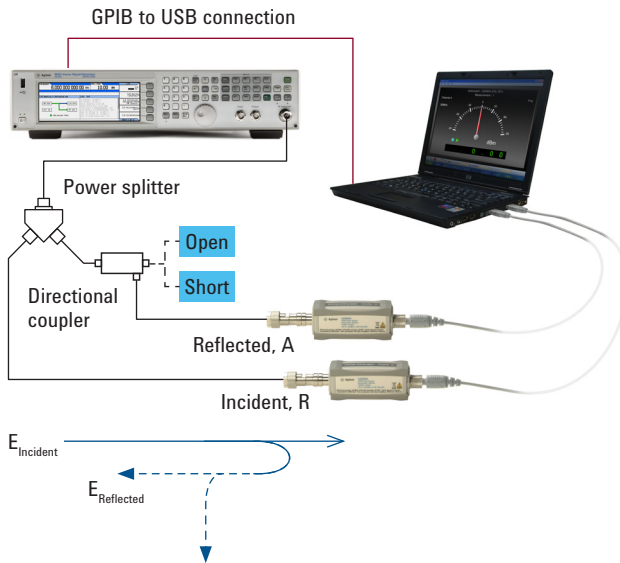
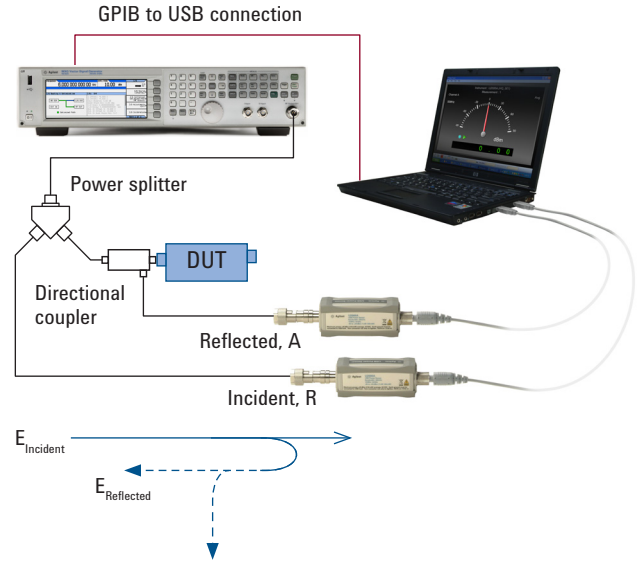

Figure 14. Calibration setup prior to reflection measurement
Figure 15. Reflection measurement setup
Before making a reflection measurement the USB sensor/signal generator must be configured as shown in Figure 14. For reflection measurement, a signal separation device such as power splitter, directional coupler, or bridge must be added (Figure 15).
1. Set up the instruments as shown in Figure 14.
4. Connect the DUT as shown in Figure 15 and make reflection measurement.